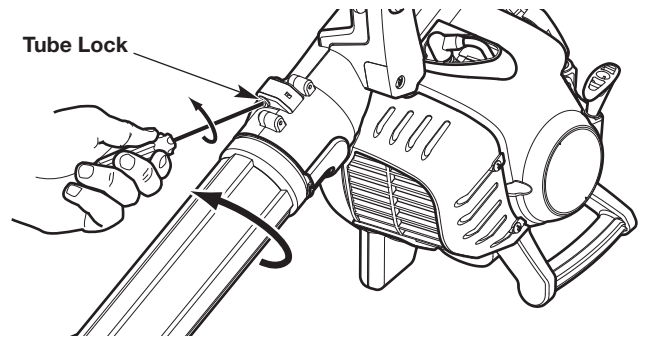

Fig. 4
2. Insert a flat-head screwdriver into the tube lock. Turn the screwdriver counterclockwise 1/4 turn and hold it in place (Fig. 4).
3. Twist the blower tube counterclockwise until it unlocks from the blower outlet (Fig. 4).